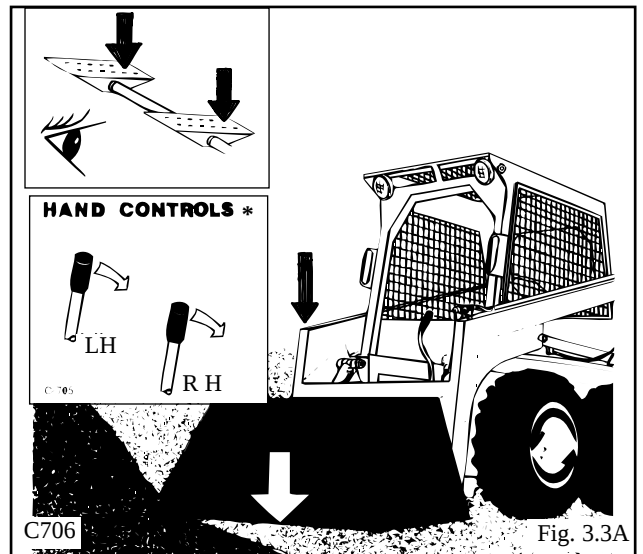

Fig. 3.3A
2. Use a gradual turn (one lever farther forward than the other) instead of a fast turn (one steering lever forward, one backward) on asphalt or concrete surfaces to prevent reduced track life or derailing of tracks (Fig. 3.3A)
Push down on the toe of the lift arm pedal and lower the lift arms completely down (Fig. 3.3A). Push the toe of the bucket pedal and place the cutting edge of the bucket on the ground. For hand control units, move the L.H. control lever towards you and lower the lift arms completely down. Move the R.H. control lever away from you (Fig. 3.3A) and place the cutting edge of the bucket on the ground.